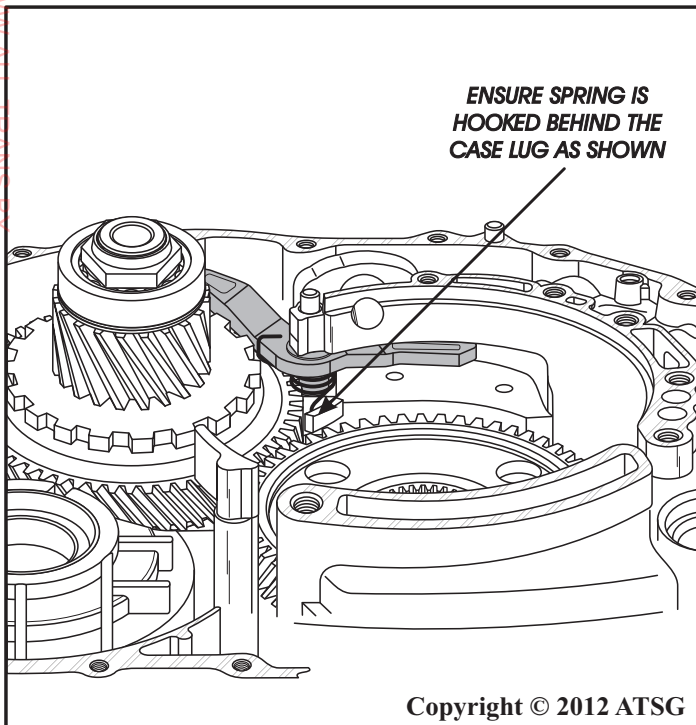

Figure 283
86. Ensure that parking pawl return spring is hooked properly behind the internal case lug, as shown in Figure 283.